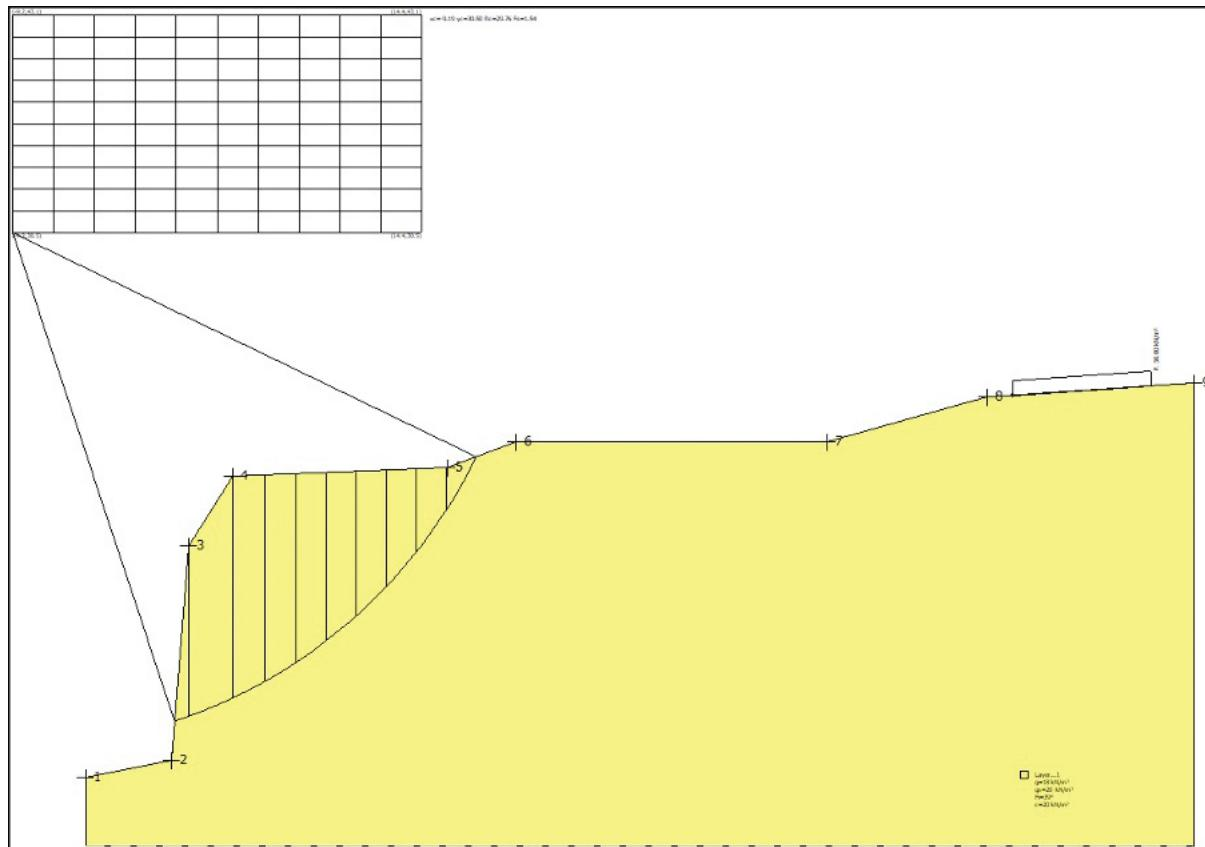

Figure 2: An example of the Bishop method
- **Bishops** - A grid is drawn above/away from the slope. Each grid square will then be assessed and resulting failure loci will be drawn for each square. A factor of safety is given for each failure loci, with the lowest factor of safety highlighted (Figure 2).